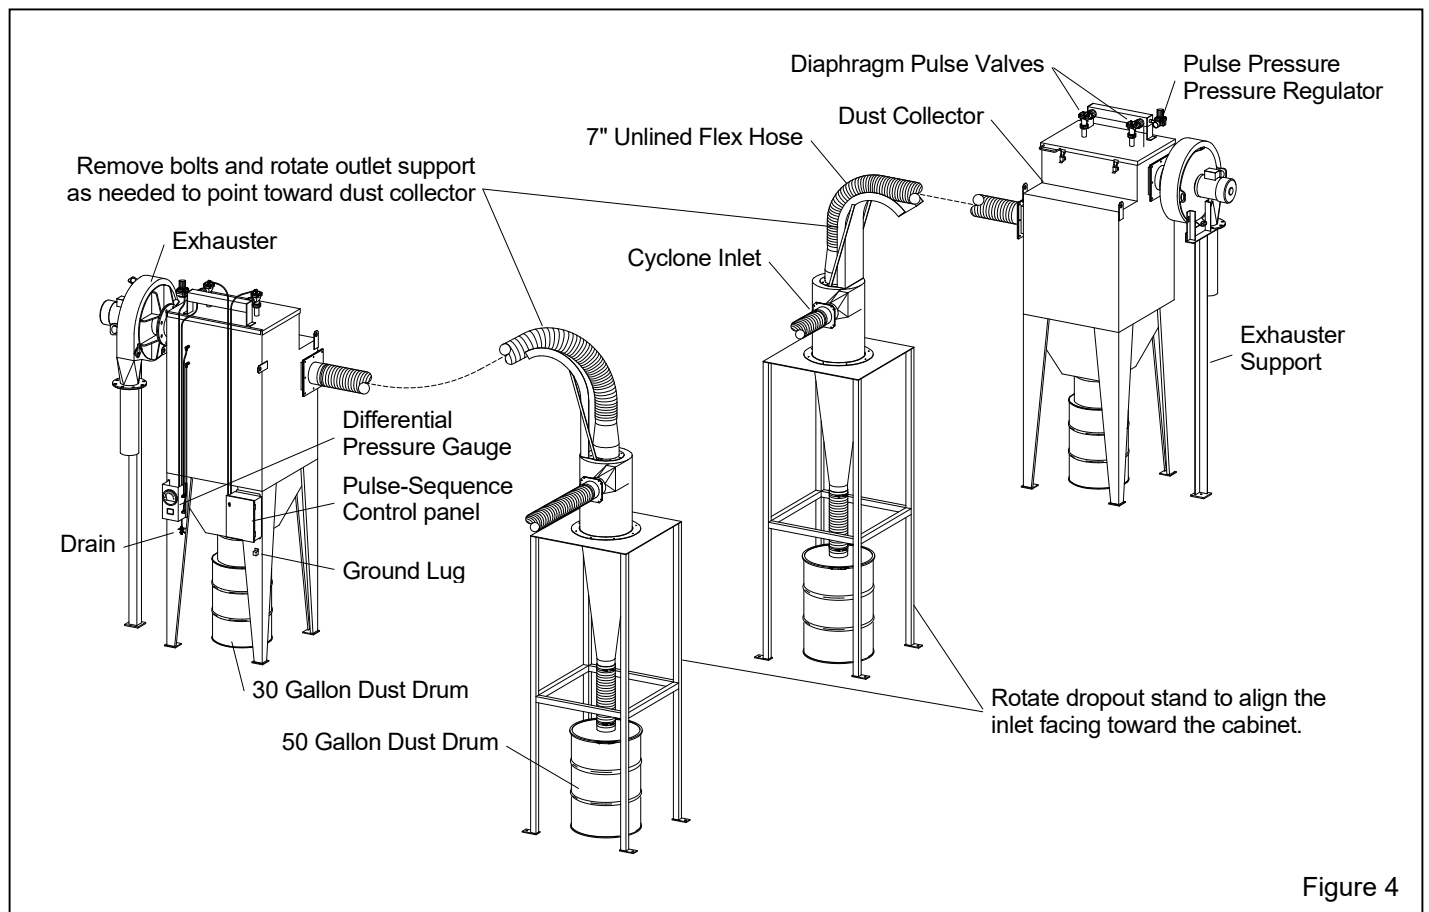

Figure 4
- Figure 4 - Dust collector and dropout cyclone